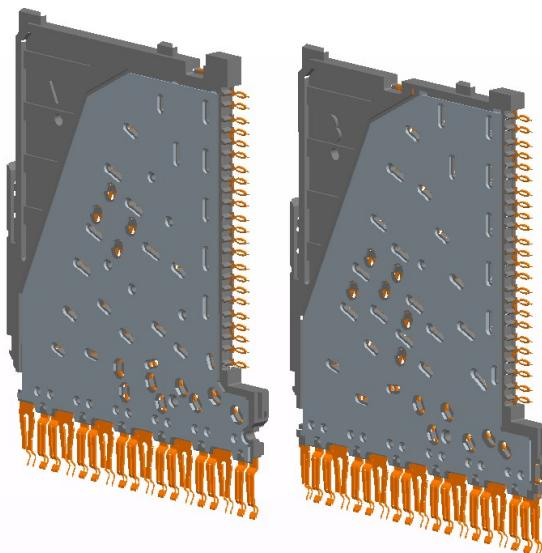

Figure 16: 6 Pair Wafers (a left, b right) with Conductive Plastic
- 4.5.2 The shield contacts are rated for 1 amp per contact see section 6.0 for the temperature rise curves. The shield contacts cannot be used for power because they are all common together with the conductive plastic and can come in contact with an adjacent wafer. Figure 16 shows this situation.